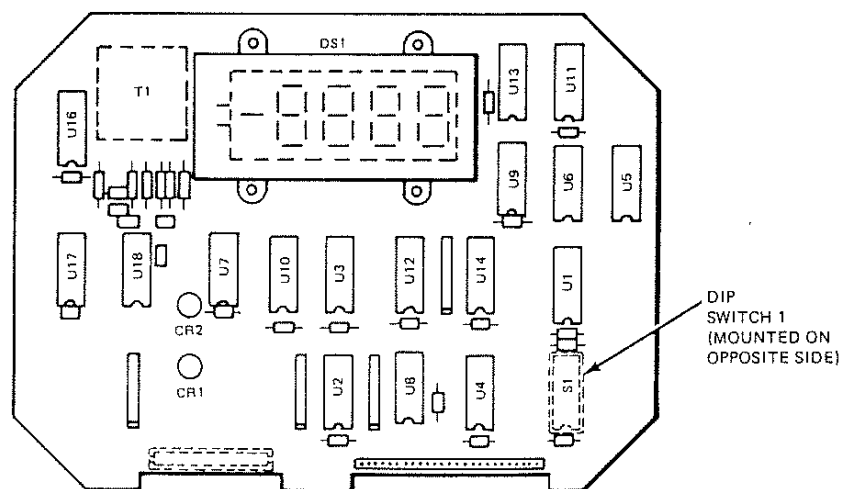

Figure A-1. LCD Display PWA
4. Refer to Figure A-1 for location of DIP switch 1 on the display PWA. Switch 1 has eight switches numbered 1 through 8.